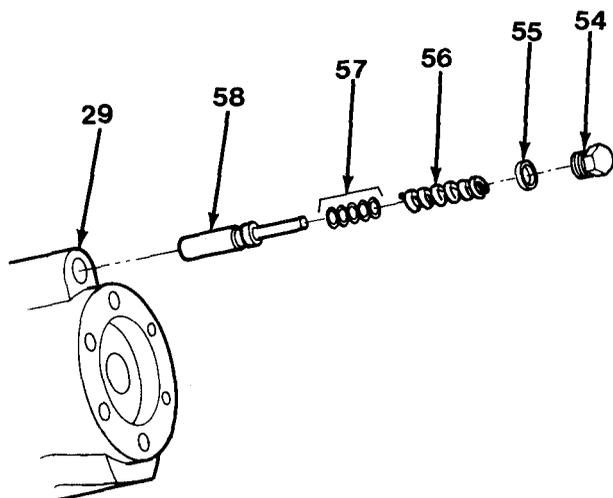

Figure 17-10
15. Remove plug (54) and O-ring (55) from plug (54, Figure 17-10).
2. Install piston (58), shims (57) as recorded, and spring (56) in brake booster (29, Figure 17-10) housing. Piston (58) must be free to move in housing (29).
3. Install O-ring (55) and plug (54).